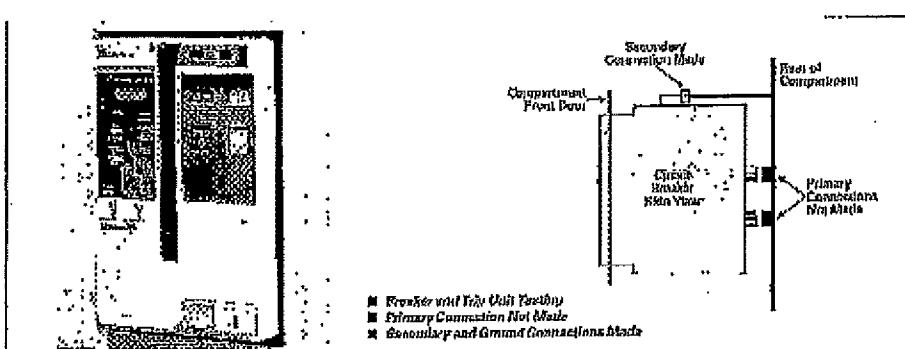

Figure 2-8 Test Position
Before attempting to push the circuit breaker into the DISCONNECT position, compare the positioning of rejection interlock pins in the cassette in keeping with Table 2.2 and Figure 2-8 and the information supplied on the circuit breaker's nameplate. Proceed if the circuit breaker and cassette are compatible.
- TEST (Figure 2-8)